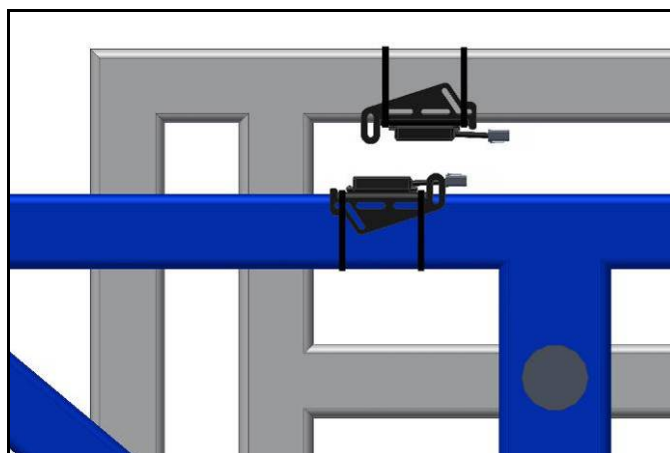

Figure 20: Inverted Chassis Roll Sensor Mounting on a Center Pivot Suspended Boom
5. The chassis roll sensor can also be mounted inverted to minimize the distance between the roll sensors (**Figure 20**).